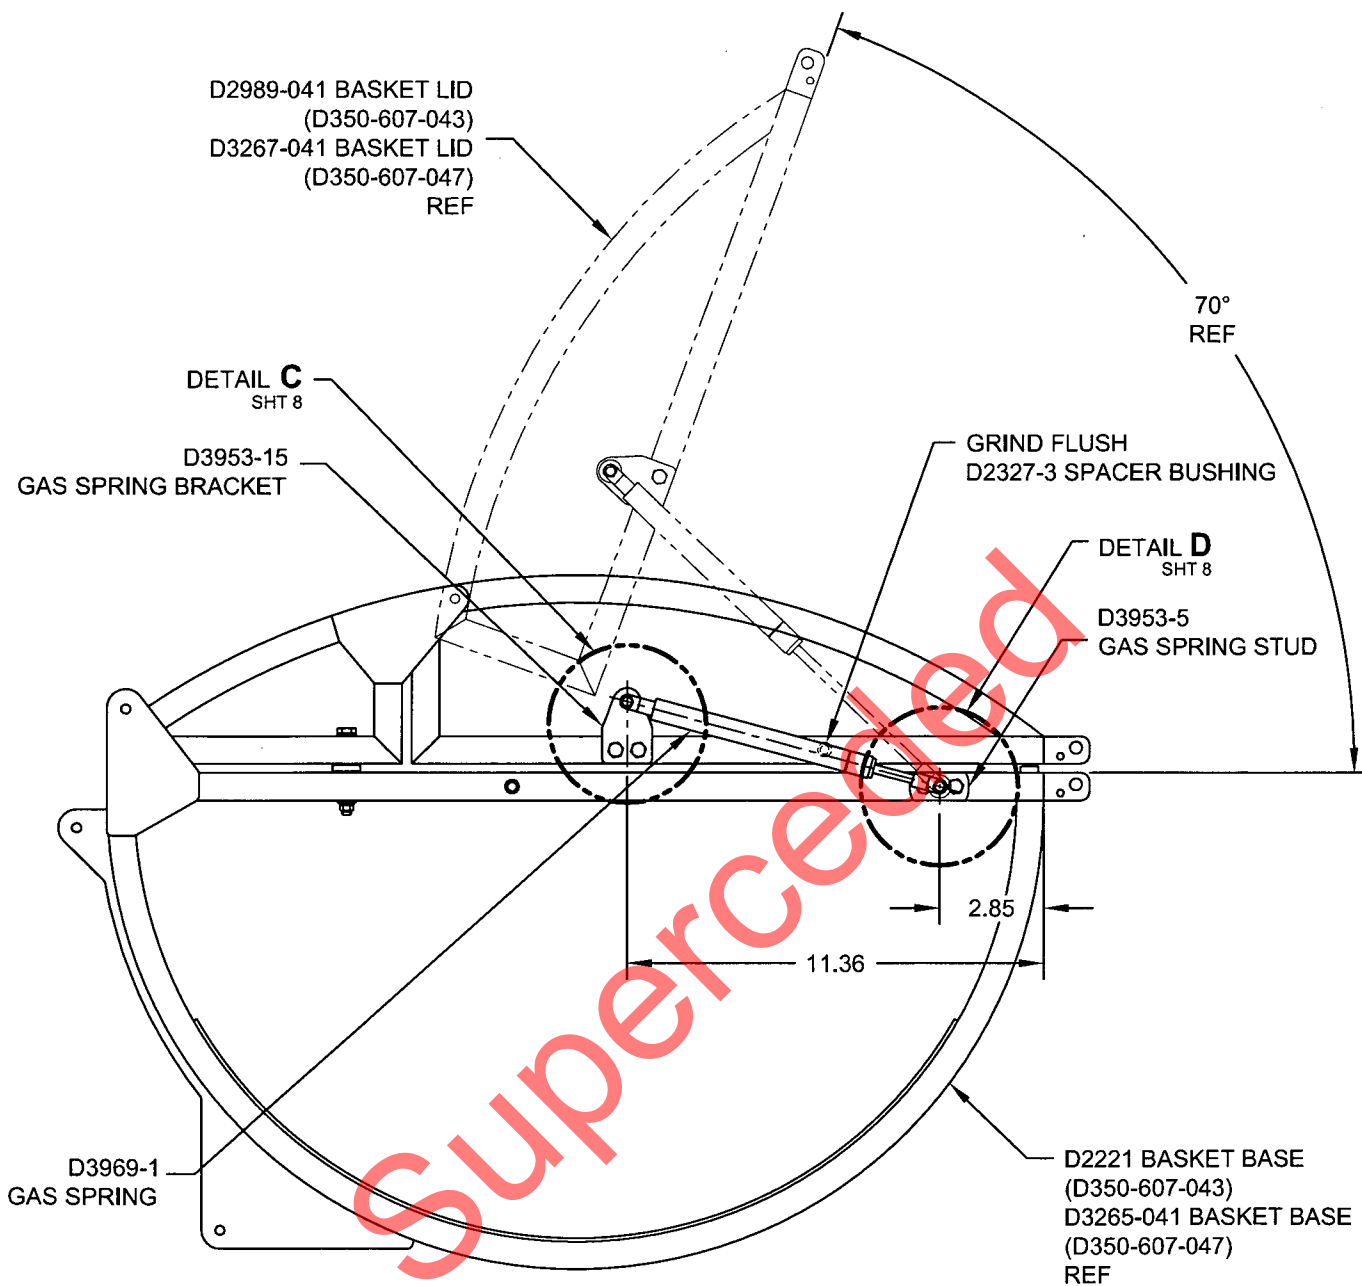

FIGURE 2
- 2) GRIND FLUSH THE D2327-3 SPACER BUSHING ON THE END OF THE BASKET WHERE THE LID OPENER IS BE INSTALLED AS SHOWN IN FIGURE 2 (IT IS PERMISSIBLE TO GRIND ALL 4 SPACERS FLUSH). TOUCH UP PAINT PER ICA-D350-607 REV. 0 SECTION 5.1 ITEM 4.
- 3) LOCATE THE D3953-15 GAS SPRING BRACKET AS SHOWN IN FIGURE 2. TRIM STEEL MESH LOCALLY AS REQUIRED. TOUCH UP PAINT PER ICA-D350-607 REV. 0 SECTION 5.1 ITEM 4. TRANSFER MARK AND DRILL 2X Ø0.194 HOLES THRU THE BASKET LID SQUARE TUBE STRUCTURE AS SHOWN IN DETAIL C. INSTALL THE D3953-15 GAS SPRING BRACKET & D3953-17 GAS SPRING SPACER USING 2X AN3C15A BOLT, 2X NAS1149C0332R WASHER & 2X MS21043-3 NUT AS SHOWN IN VIEW G-G.
- 4) LOCATE THE D3953-5 GAS SPRING STUD AS SHOWN IN FIGURE 2. TRIM STEEL MESH LOCALLY AS REQUIRED. TOUCH UP PAINT PER ICA-D350-607 REV. 0 SECTION 5.1 ITEM 4. TRANSFER MARK AND DRILL 2X Ø0.194 HOLES THRU THE BASKET BASE SQUARE TUBE STRUCTURE AS SHOWN IN DETAIL D. INSTALL 2X AN3C11A BOLT, 2X NAS1149C0332R WASHER & 2X MS21043-3 NUT AS SHOWN IN VIEW H-H. INSTALL THE ROD END OF THE D3969-1 GAS SPRING ONTO THE D3953-3 GAS SPRING STUD USING 1X D3953-9 GAS SPRING WASHER, 1X NAS1149C0432R WASHER, 1X AN310-4 CASTELATTED NUT & 1X MS24665-212 COTTER PIN AS SHOWN IN VIEW H-H. INSTALL COTTER PIN PER MS33540 OR AC43.13 CHAPTER 7-127 .